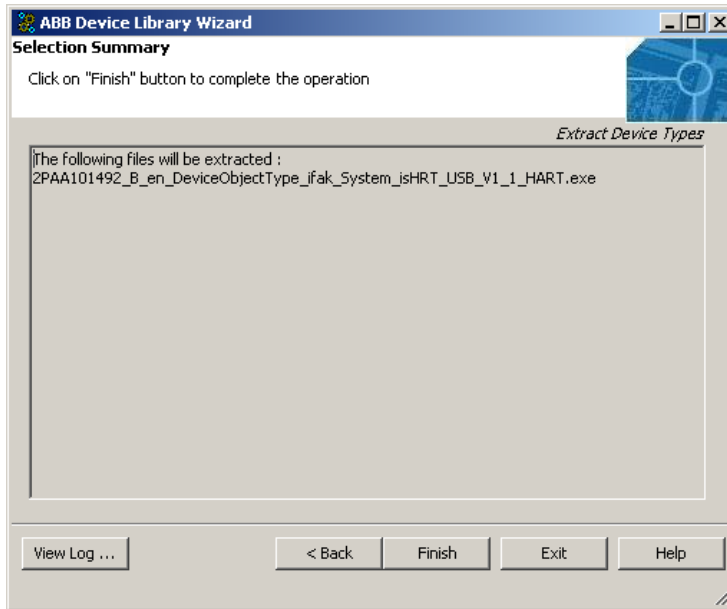

Figure 64. Device Object Type Selection Summary
4. In the resulting screen, similar to the one shown in Figure 64, review the Device Object Types to be extracted and click on **Next** button to continue extraction.